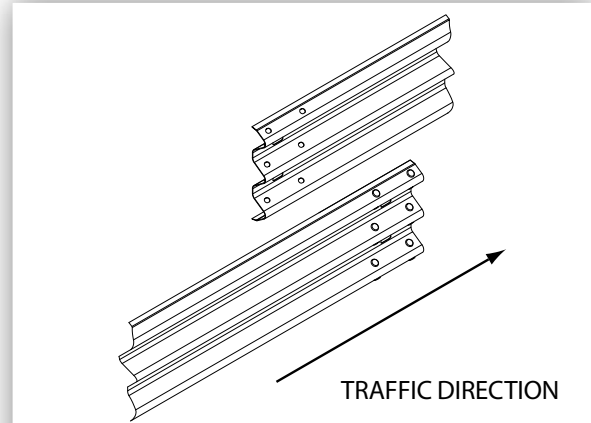

Figure 5: Orientation of Rail Lap
10. The first rail is connected to the concrete via the three-beam structural connector. The lapping of the splice joint should follow figure 5 and uses twelve M16x32 splice bolts/nuts.